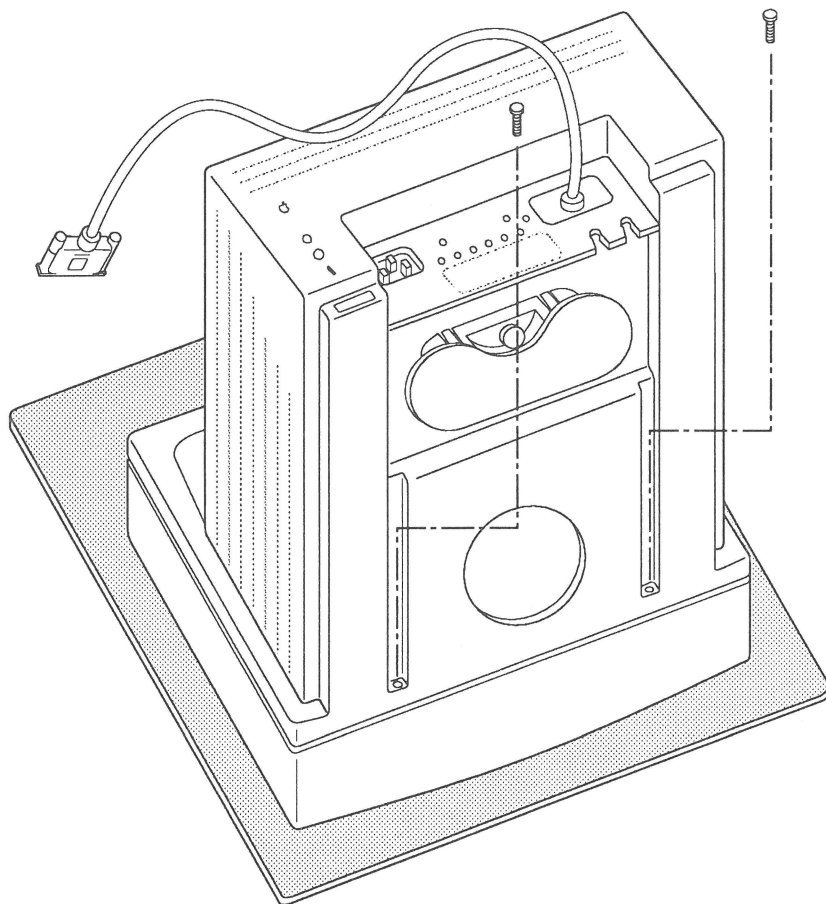

Figure 2-1 Rear Cover Screw Removal
3. With the bottom of the monitor facing you, remove the two case screws (**Figure 2-1**) from the rear cover.